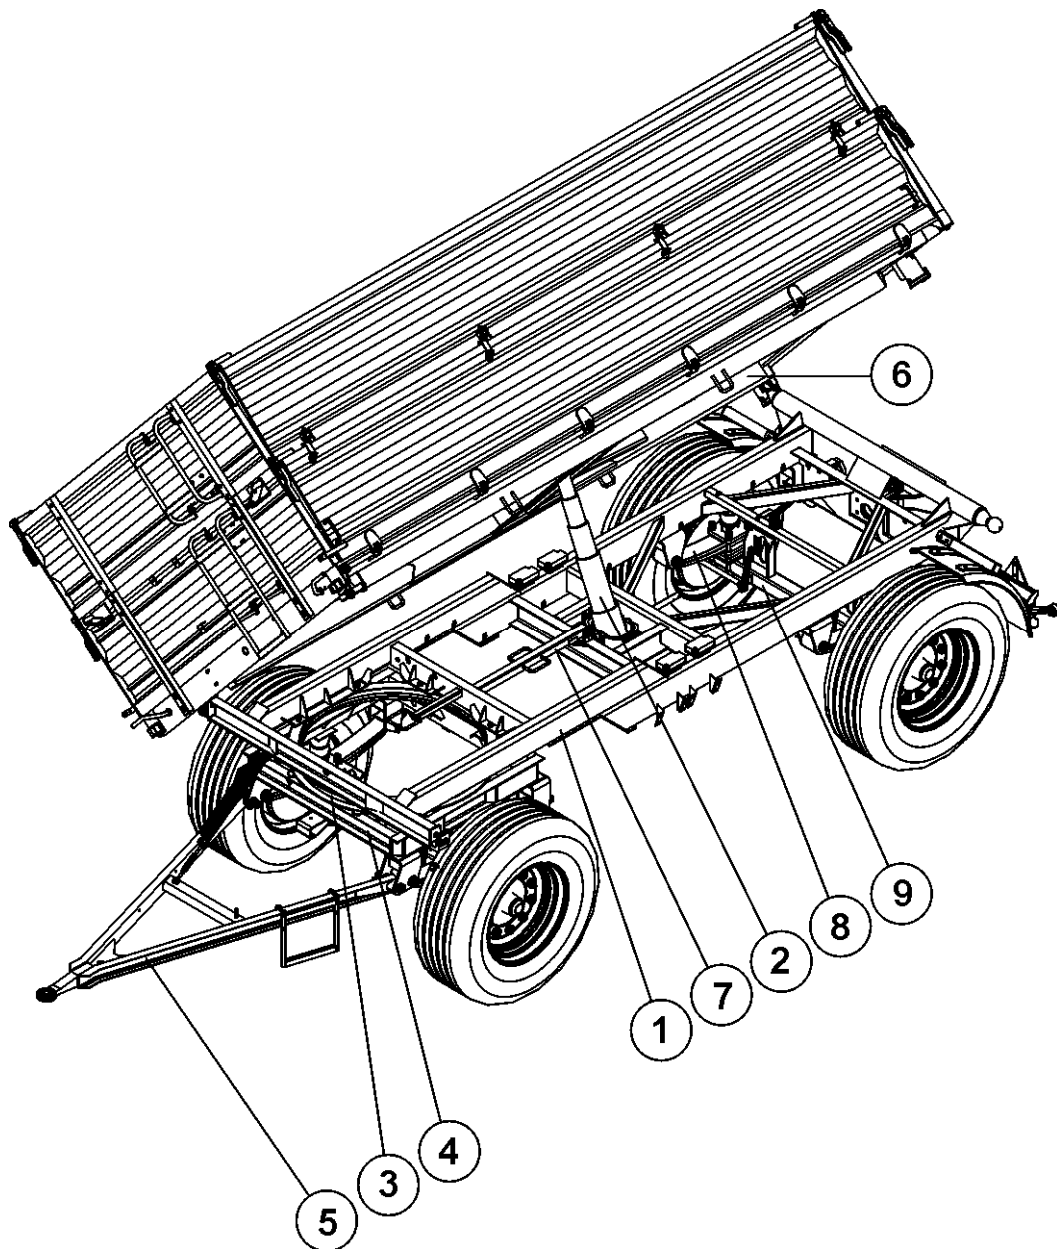

Fig. 4 Undercarriage and upper frame
Trailer's undercarriage consists of parts shown on the Fig. 4. The lower frame (1) is a welded structure made of steel profiles. Main carrying elements are two stringers connected each to other with cross-bars. In frame corners there are pivots for mounting of the upper frame (6), and in the middle part of the frame there are seats for fastening of the hydraulic cylinder (2). The front frame part is fitted elements of front axle suspension: turntable (3), turntable frame (4), suspension springs and draught bar (5). The rear part of the frame is fitted also with mountings for the rear axle (5) and for rear lighting elements.